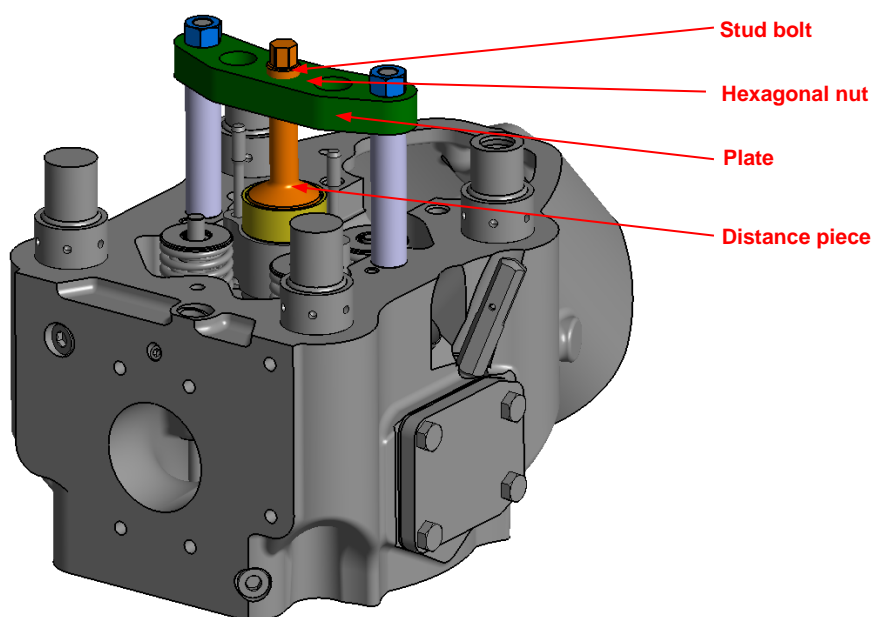

Figure 35: Mounting of pre-chamber mounting tool on "F" cylinder head
- 5) Position the pre-mounted mounting tool according to Figure 35 on the distance pieces and stud bolts and secure it with 2 x M16 hexagonal nuts